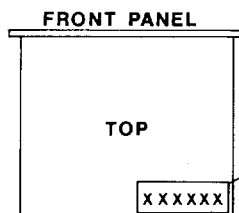

Figure 6.
4. On the top cover is a **System Configuration Label**. Use it to indicate the module type, configuration, and options (if any) for future reference. Write directly on the label with a permanent marker. A sample label is shown in Figure 6 for reference.